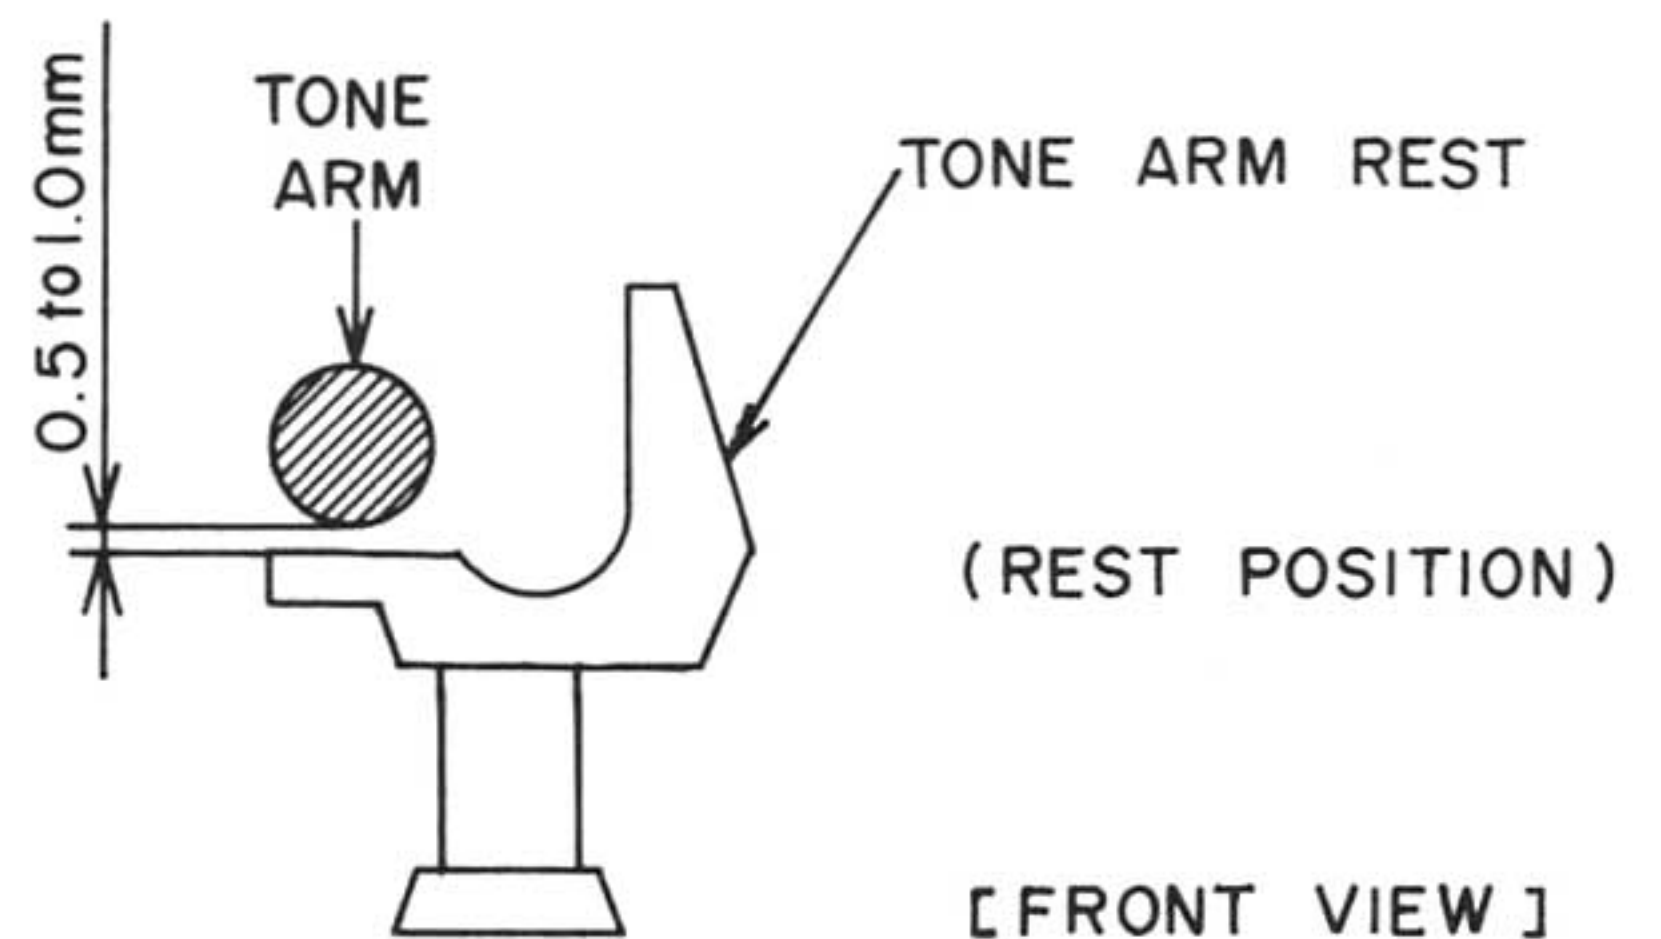

Fig. 7-2
(Refer to Figs. 7-2 & 7-3)
- 2) Adjust Screw (A) of Elevation Lever so that the height are 0.5 to 1.0 mm from flat face of Tone Arm Rest. (Refer to Fig. 7-2)
- 4) If the height difference of Stylus is more than  $\pm 2.0$  mm, repeat item 1) to 3).